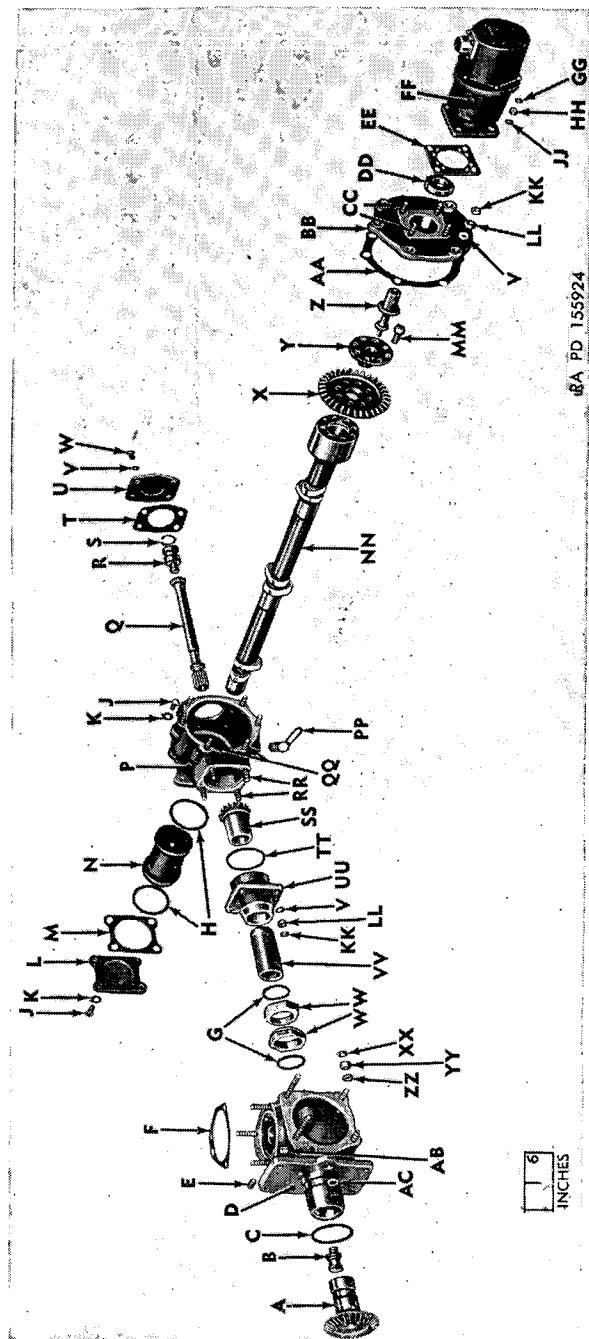

Figure 54. Camshaft and drive-right (1-3-5) side—exploded view.
*d.* Install a new "O" ring gasket on the camshaft drive shaft support (FF, fig. 53) and (UU, fig. 54). Insert the camshaft drive bevel gear (HH, fig. 53) and (SS, fig. 54) in its support and install the support on the camshaft gear housing. Secure with plain washers, plain nuts, and jam nuts.
*e.* Install new "O" ring gaskets (R, fig. 53) and (H, fig. 54) on the inter-cylinder connectors (U, fig. 53) and (N, fig. 54). Slip the connectors over the camshafts.